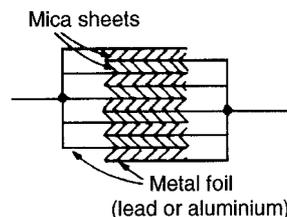

Figure 6.14
2. Mica capacitors. A typical older type construction is shown in Fig. 6.14.